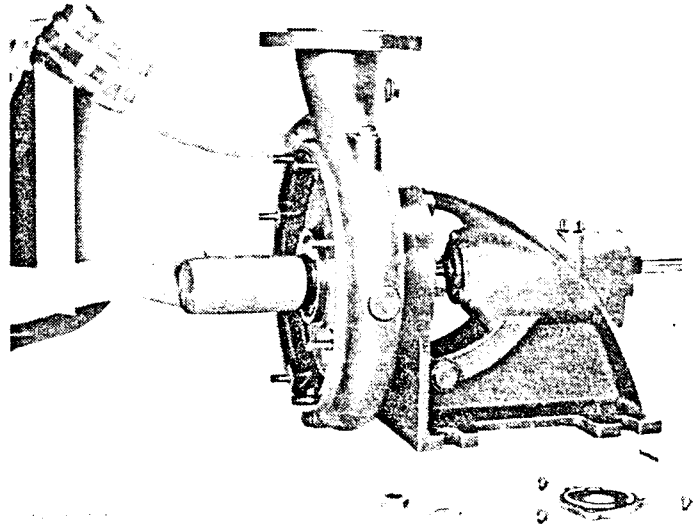

Fig. 18 Removing the impeller from the shaft
3. Undo the bearing coverplate (426) at the drive end, and drive the shaft off the impeller with gentle taps – see fig. 18. After prolonged operation, it may prove difficult to remove the impeller from the shaft. In this case, use a proprietary rust solvent.
4. Loosen gland (407), undo the bolts connecting the bearing bracket (115) to the volute casing (101), and withdraw the volute casing.